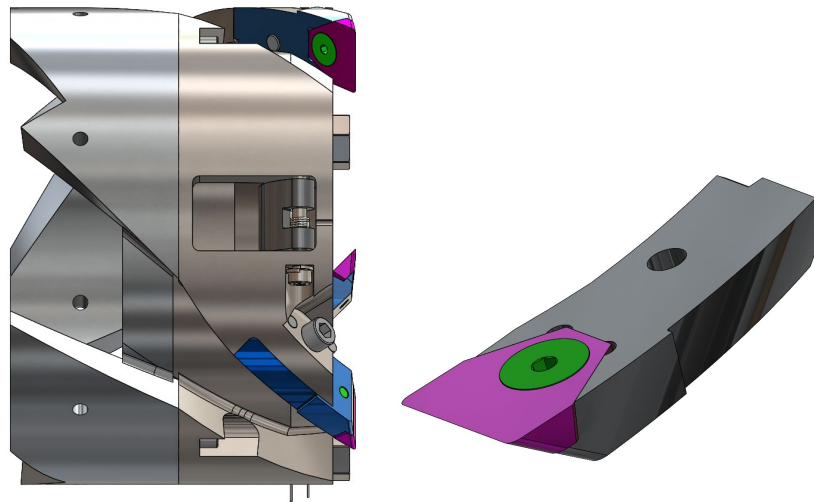

Figure 6: Left - Carbide Cutters Installed in the Cutter Head. Right - Carbide Cutter Assembly.
7.1.1 The IDDO hand auger can be equipped with either one-piece steel cutters or carbide cutters. Both styles of cutters attach to the cutter head in the same fashion. The carbide cutters are an assembly of three parts, including the insert holder, carbide insert and insert screw (Figure 6 - right). Carbide cutters are recommended for coring dirty ice since they are more wear resistant than the steel cutters, are consumable, and can be easily replaced as they dull. Refer to Appendix D: Special Drilling Conditions (Section 10.0) for more information on when to use carbide cutters.
7.2.1 Installing a collet (Figure 6):